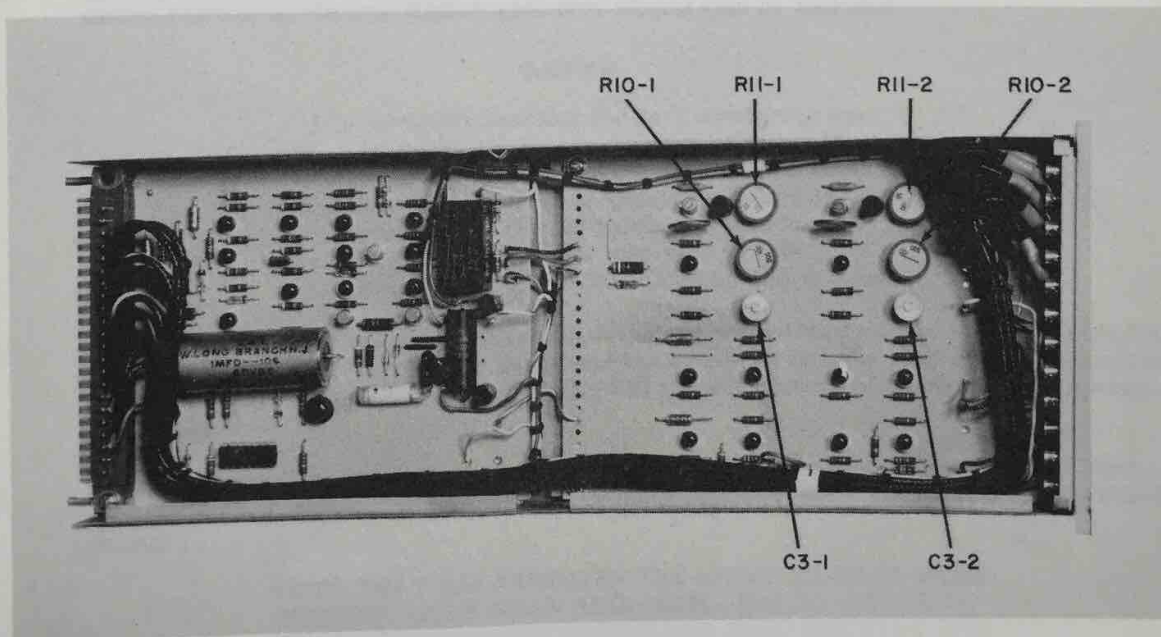

Figure 2.8. D/A Switch Card Showing Adjustments
3. Adjust R14 on the card (see Figure 2.8) until the DVM indicates an output of 0.0000.